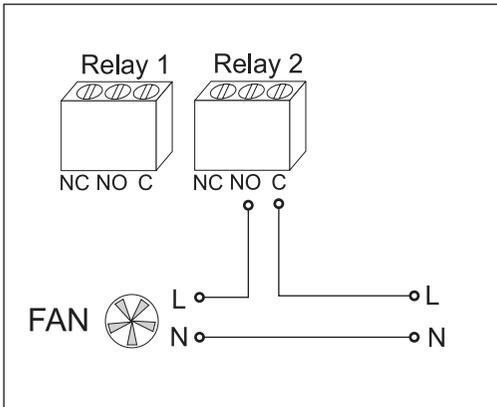

Figure 2.2 Alarm relay electrical connections.
The CellarSafe has two alarm relays to which external visual and audible alarms or other ancillary equipment, such as a fan, can be connected. An example electrical connection is shown in Figure 2.2.
The two alarm relay connections are each marked NC (normally closed), NO (normally open) and common (C). Use the NO and C screw terminal connectors as shown in Figure 2.2. (L = live, N = neutral)